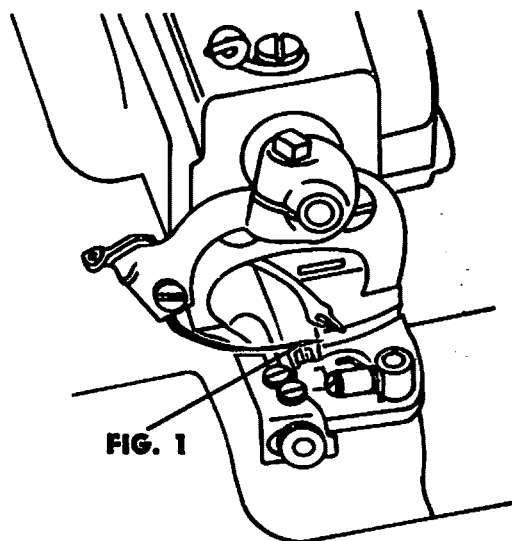
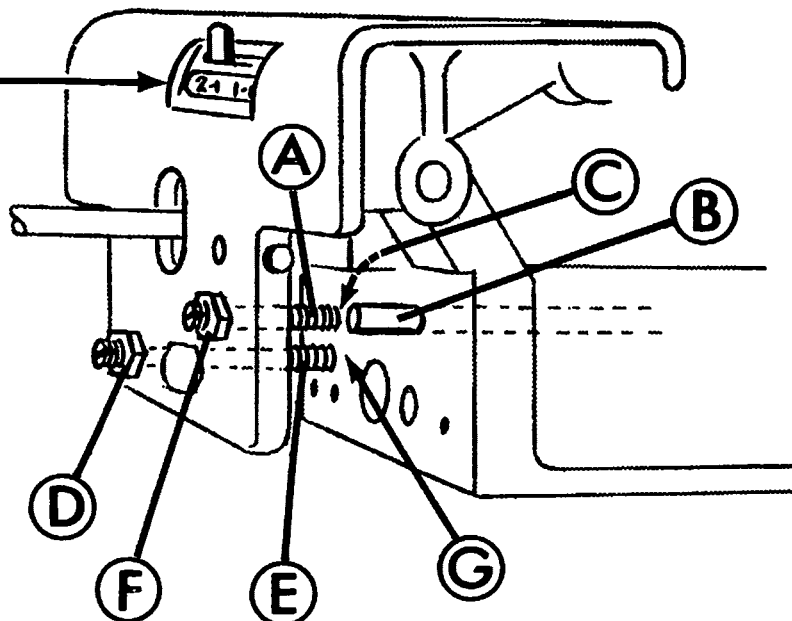

FIG. 1
FIG. 5
2. Turn hand wheel **CLOCKWISE** until eye of needle is at slot in presser foot shoe (Fig. 1).
ON THE SKIP STROKE, stop when the eye of the needle is at the rib (Fig. 1). At this point, the gap between the Compensating Skip Stitch Screw (Fig. 5, A) and the Push Rod (B) should be .018 (C). (In the absence of a gauge, .018 is about 5 times the thickness of average letterhead paper.) This adjustment is made by loosening Lock Nut (F), adjusting screw (A) so gap at (C) is .018. Keep screw in place with screwdriver and secure Lock Nut.
3. Hold Needle at point (D) (Fig. 5) with left thumb and index finger, loosen screw (A) a quarter turn, then push Needle all the way up the Needle Lever (DO NOT FORCE) and secure screw (A) firmly.